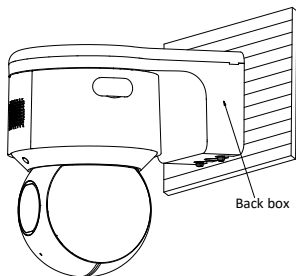

Figure 2-69 Connect the cables
- Put cables in the back box, then close the decorative cover as shown in Figure 2-69.